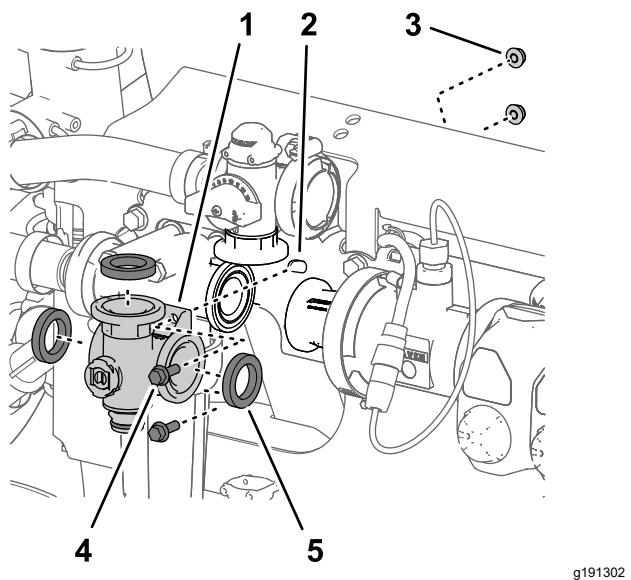
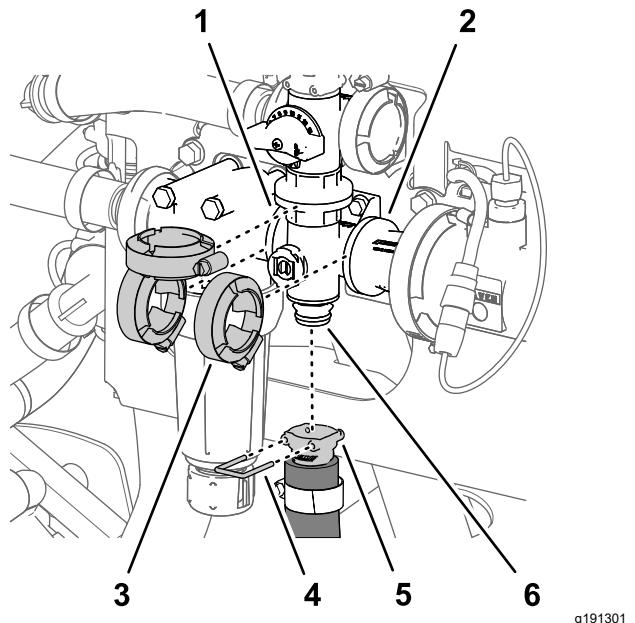

Figure 125
Figure 126
1. Align the flange of the agitation-valve manifold and 3 gaskets with the flanges of the agitation-bypass valve, pressure filter head, and coupling adapter (Figure 125 and Figure 126).
2. Loosely secure the agitation-valve manifold to the agitation-bypass valve, pressure filter head, and coupling adapter (Figure 126) with the 3 flange clamps that you removed in Removing the Agitation-Manifold Valve \(page 81\).
5. Tighten the 3 flange clamps by hand (Figure 126).
6. Assemble the quick-connect coupler of the agitation hose onto the quick-connect fitting of the agitation-valve manifold with the quick-connect pin (Figure 126).